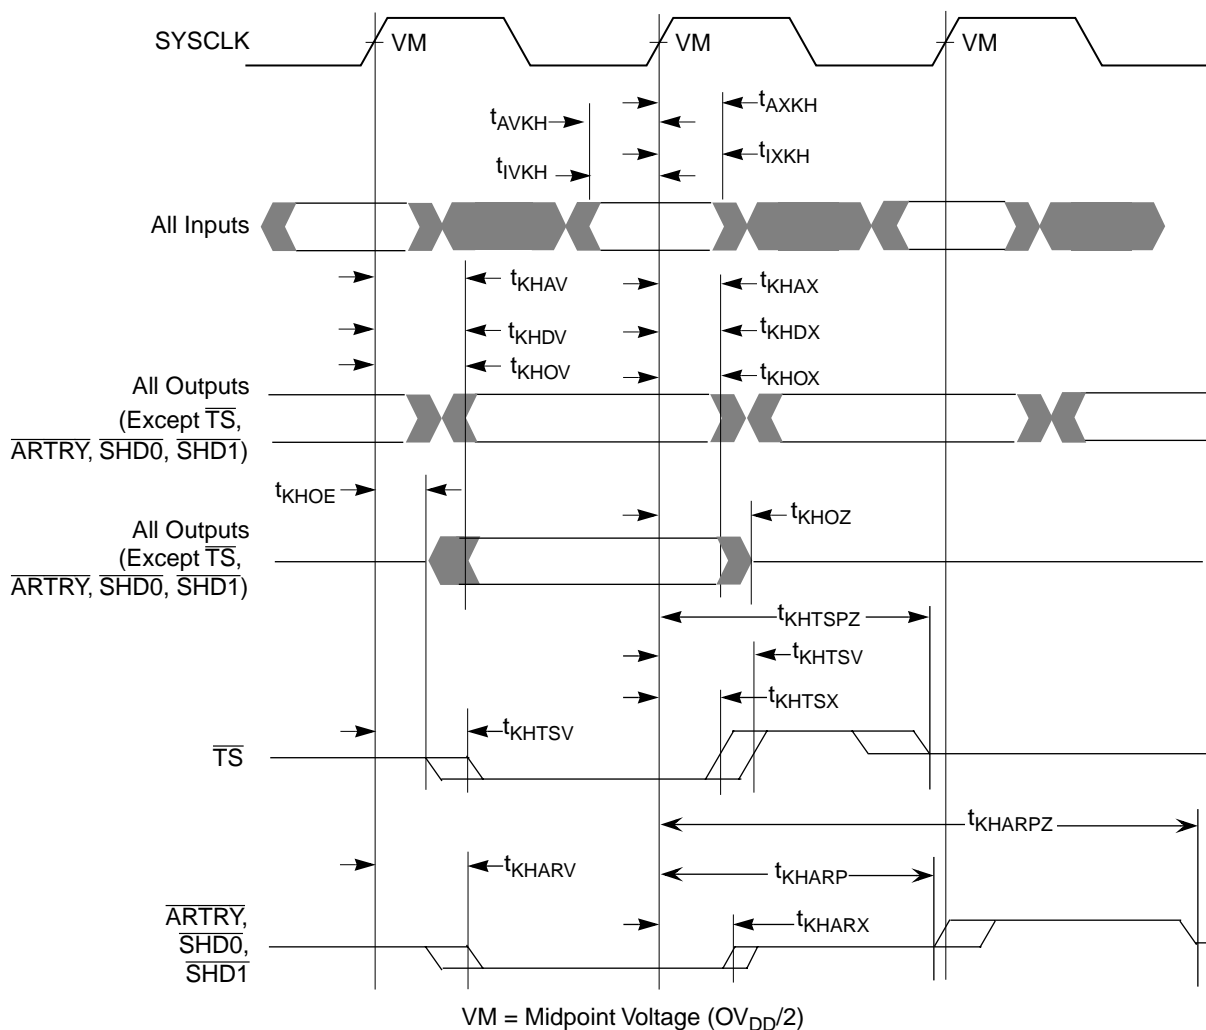

Figure 6. Input/Output Timing Diagram
- According to the bus protocol, $\overline{\text{TS}}$ is driven only by the currently active bus master. It is asserted low then precharged high before returning to high impedance as shown in Figure 6. The nominal precharge width for $\overline{\text{TS}}$ is $0.5 \times t_{\text{SYSCLK}}$, i.e., less than the minimum t_{SYSCLK} period, to ensure that another master asserting $\overline{\text{TS}}$ on the following clock will not contend with the precharge. Output valid and output hold timing is tested for the signal asserted. Output valid time is tested for precharge. The high impedance behavior is guaranteed by design.
- According to the bus protocol, $\overline{\text{ARTRY}}$ can be driven by multiple bus masters through the clock period immediately following $\overline{\text{ACK}}$. Bus contention is not an issue because any master asserting $\overline{\text{ARTRY}}$ will be driving it low. Any master asserting it low in the first clock following $\overline{\text{ACK}}$ will then go to high impedance for one clock before precharging it high during the second cycle after the assertion of $\overline{\text{ACK}}$. The nominal precharge width for $\overline{\text{ARTRY}}$ is $1.0 t_{\text{sysclk}}$; that is, it should be high impedance as shown in Figure 6 before the first opportunity for another master to assert $\overline{\text{ARTRY}}$. Output valid and output hold timing is tested for the signal asserted. The high-impedance behavior is guaranteed by design.
Figure 6 provides the input/output timing diagram for the MPC7455.